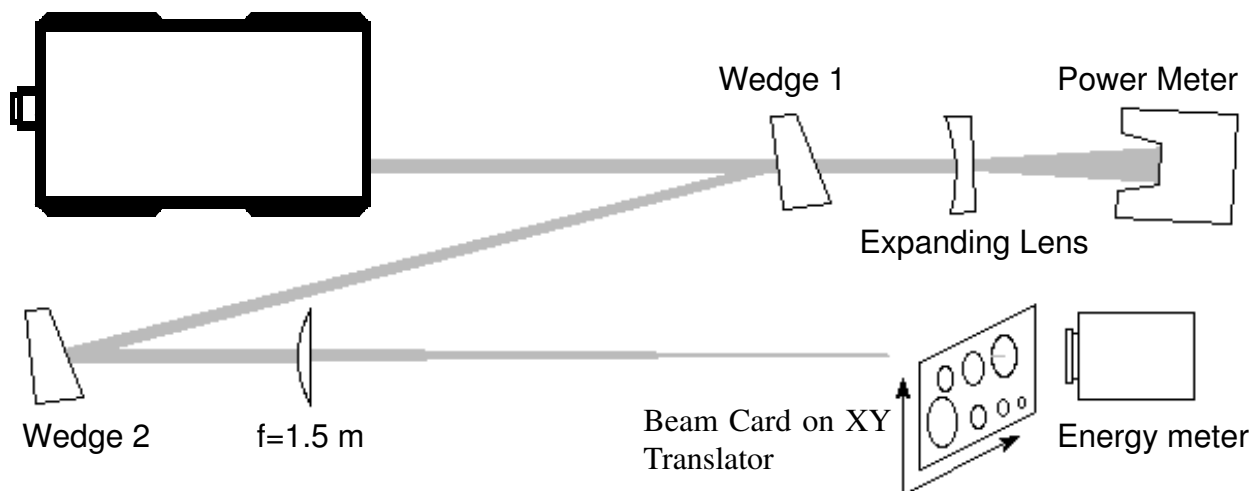

Figure 1.3-1. Experimental Set-Up for Energy-in-the-Bucket Measurement.
The experimental set-up is schematically displayed in Figure 1.3-1. A fraction of the beam exiting from the Infinity system is split off and focused through a pinhole. The transmitted power is measured using a power meter connected to an oscilloscope. Since the beam is focused it is important that the pulse energy is kept low enough not to cause sputtering of the pinhole. Follow the set-up procedure below.
3. Insert wedge 1 as shown in Figure 1.3-1. Use a small angle (e.g., $\sim 15^\circ$). A smaller angle reflects less energy.
4. Position wedge 2 in the path of the front surface reflection according to Figure 1.3-1. Make sure that it is the front surface reflection that is used! Locate the rear surface reflection and position a beam dump in its path.